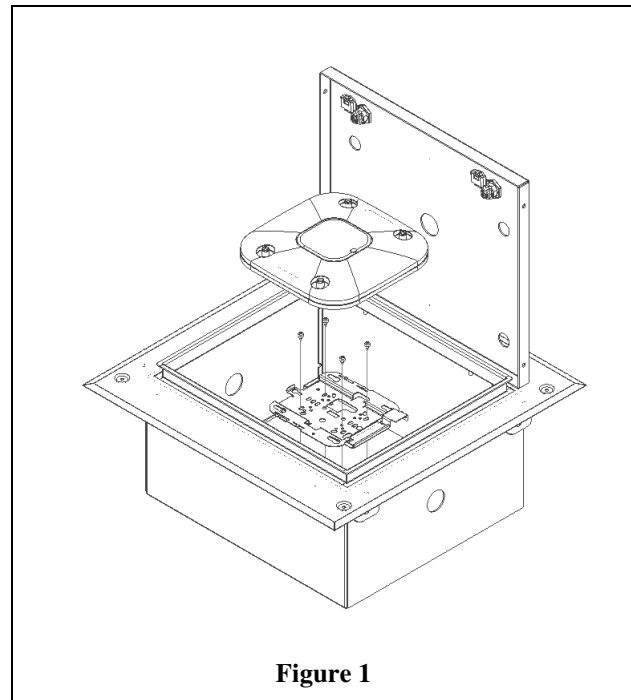

Figure 1
**Step 2a – (For Cisco AP's Only)** The mounting holes for Cisco AP's are located in the mounting plate. Standard Cisco mounting brackets as well as "Bracket 2" can be attached so the "Cisco" logo of the AP is parallel to the hinge. For "Bracket 1" the logo of the AP will be mounted perpendicular to the hinge. Securely fasten the access point's mounting plate to the mounting holes on the mounting plate of the enclosure using four (4) # 8 screws. Attach the Access Point to the mounting plate (Figure 1).